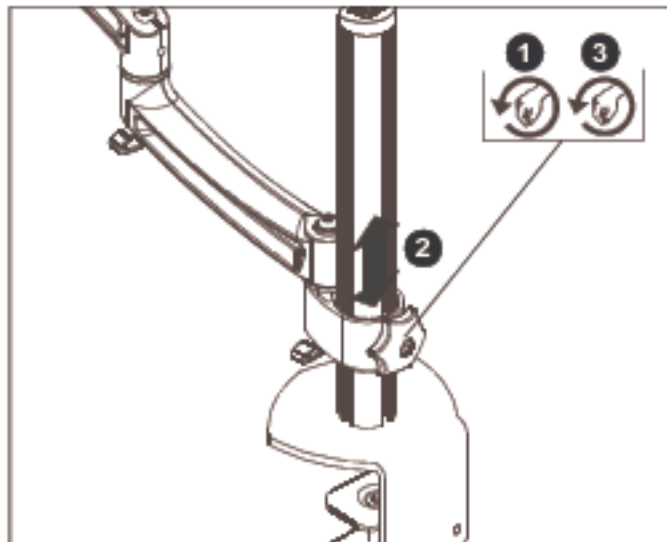

Figure 7
1. Loosen column adjustment knob. (See Figure 7)
2. Adjust height to desired level. (See Figure 7)
3. Tighten column adjustment knob. (See Figure 7)